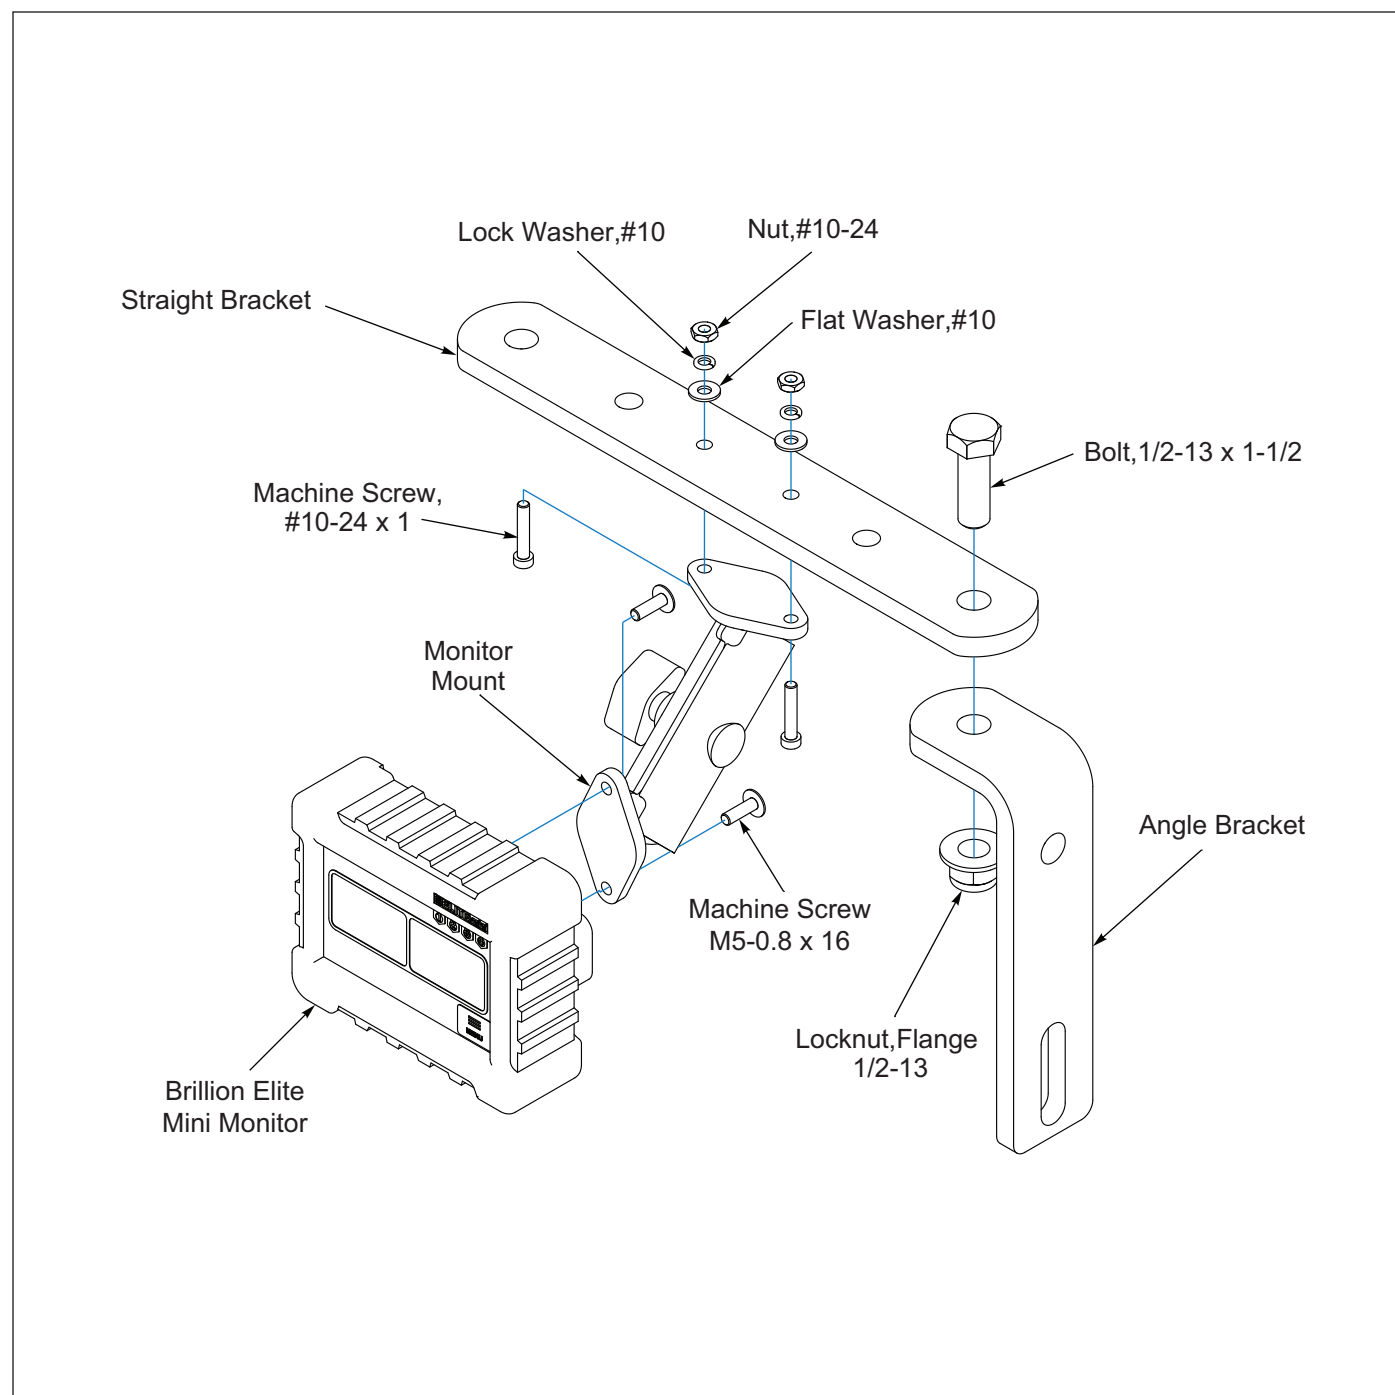

Figure 2-30: Brillion Elite Mini Monitor Tractor Installation - Optional
1. Mount Angle Bracket onto Tractor where convenient for the operator. **See Figure 2-30.**